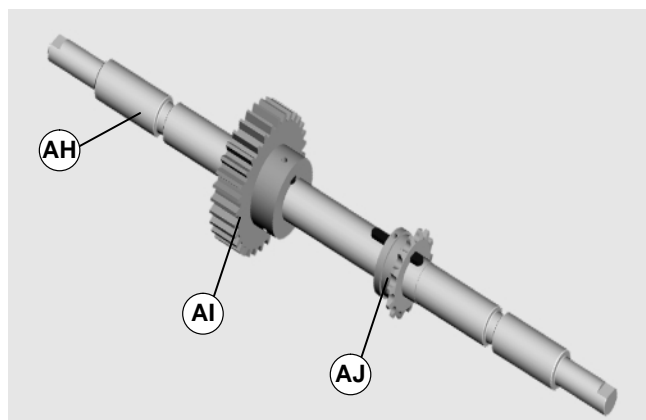

Figure 21
5. Remove drive spindle (AH of Figure 21) with spur gear (AI) and sprocket (AJ) from conveyor.